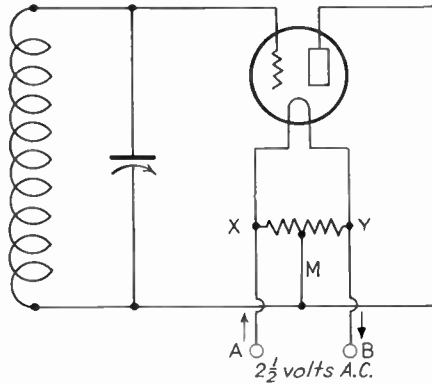

FIG. 212. This circuit is quiet.
The Center-tapped Resistor Stops Hum. A 20- to 30-ohm resistor is connected across the filament, as shown in Fig. 212. When a surge of electrons flows to the filament from *A*, it causes a pressure of electrons at *X*. Some electrons flow through the resistor toward the center-tap wire *M*. But at the same instant there is a demand for electrons at *Y* as electrons surge away toward *B*. The electron pressure from *X* will try to push electrons on wire *M*, and the electron demand from *Y* tries to pull electrons off wire *M*. No electrons will flow from the resistor at *M* since there is no pressure there to force them to flow. Instead, nearly all of the electrons will flow through the low resistance of the filament. Now you can hear no hum in the phones because the constant surging of electrons on the filament does not affect the grid.
4. When a center-tapped resistor is used, as in Fig. 212, the electrons entering the filament on the *A* side will have a choice of flowing through the filament from *X* to *Y* or of flowing through the resistor from *X* to *Y*. Which path will most of them take? Explain why they choose this particular path.